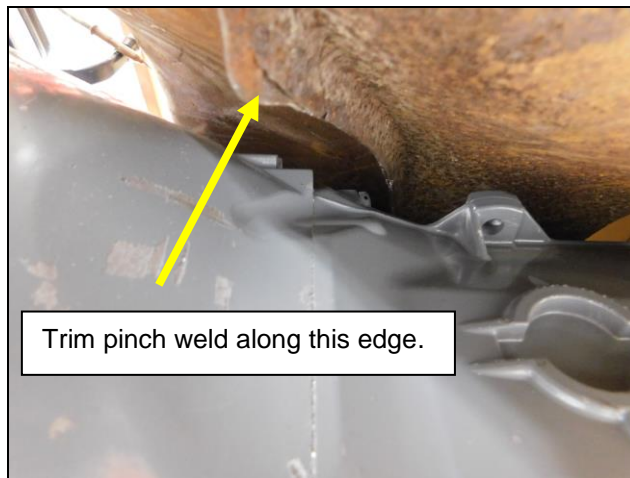

Figure 1
1. Trim approximately 1/4" from the bottom edge of the firewall pinch weld as shown in **Figure 1**. Take care to not trim into the spot welds. If additional clearance is required for the bell housing, it will require rolling the pinch weld.
NOTE: The transmission mount will be installed between the adapter plate and the **BHS572** transmission crossmember. **Fig.1**